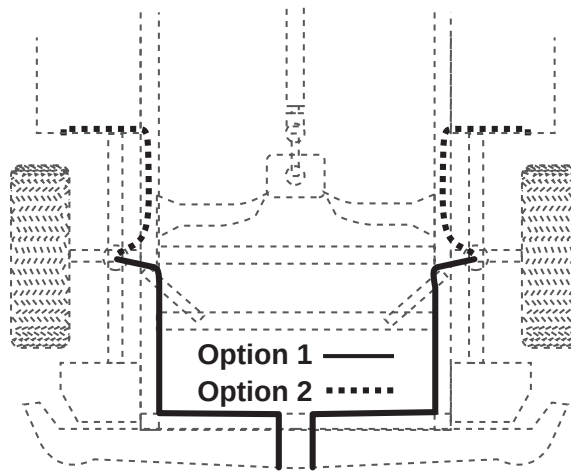

fig. 18
6. Route the air line along the frame to the air fitting on the air spring (fig. 18). Keep AT LEAST 6" of clearance between the air line and heat sources, such as the exhaust pipes, muffler, or catalytic converter. Avoid sharp bends and edges. Use the plastic tie straps to secure the air line to fixed, non-moving points along the chassis. Be sure that the tie straps are tight, but do not pinch the air line. Leave at least 2" of slack to allow for any movement that might pull on the air line.